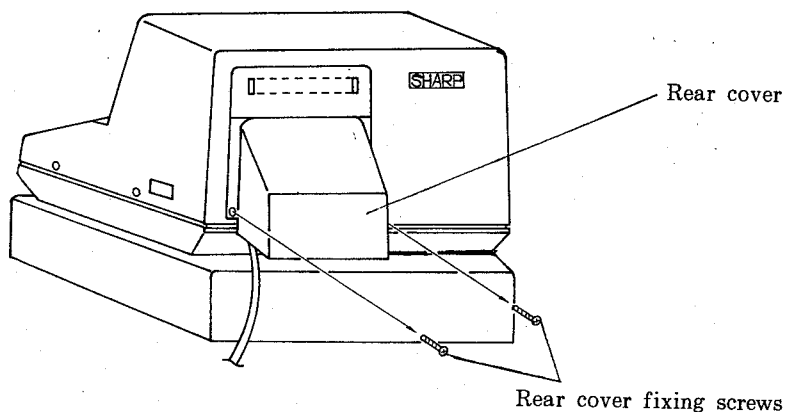

Fig. 2
- (1) For safety, unplug the ER-6750.
- (2) Remove the rear cover.
- a) Remove the rear cover fixing screws (2 pcs.). (See Fig.2.)